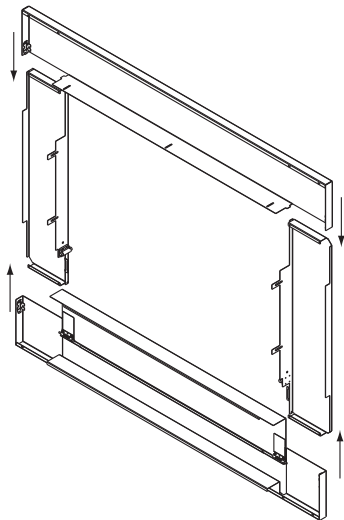

Figure 1
3. Align parts as shown in Figure 1. Slide left and right sides into the top face until sides are fully inserted. Slide the bottom face over the sides until fully inserted and fastener holes are aligned.